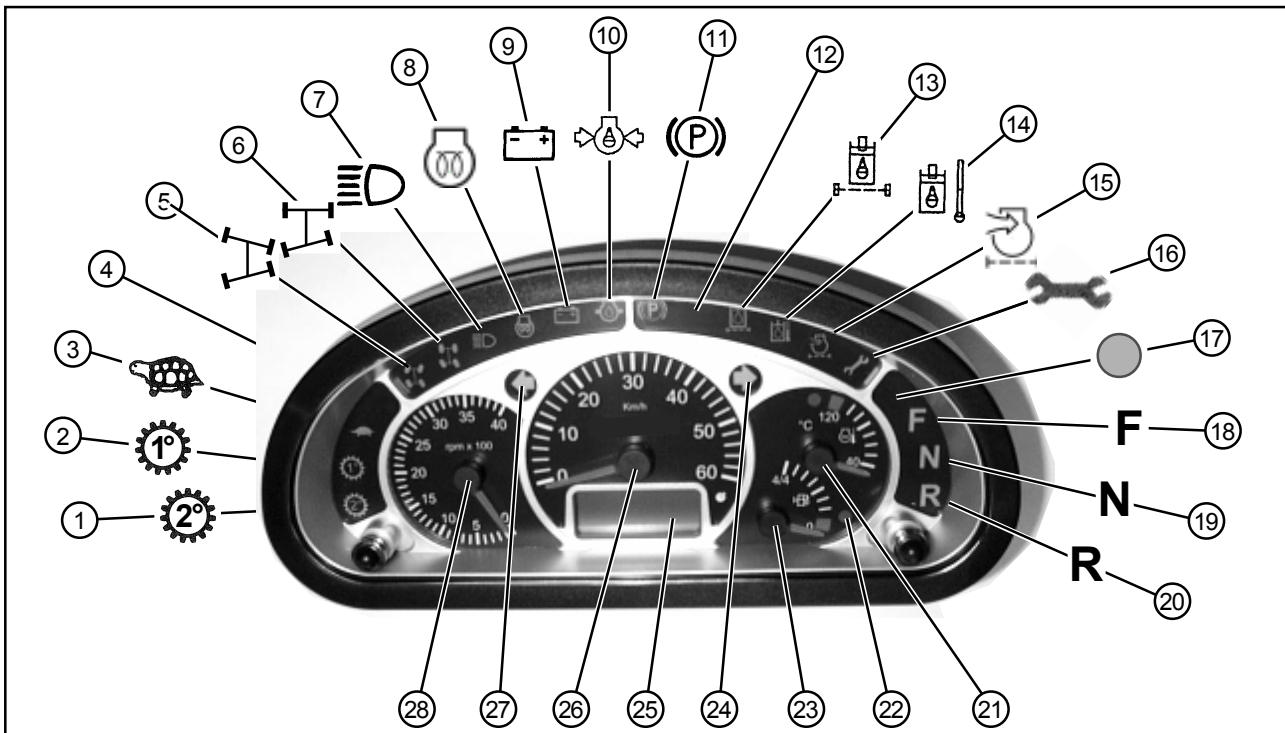

Figure 4-16
- 1 - Multifunction panel (see chapter 4.4.1 Fig. 4-16)